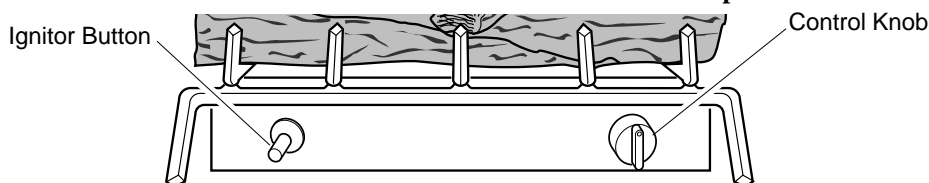

Figure 28 - Control Knob and Ignitor Button Location
4. Wait five (5) minutes to clear out any gas. Then smell for gas, including near the floor. If you smell gas, STOP! Follow "B" in the safety information above. If you don't smell gas, go to the next step.
5. Press in control knob and turn counterclockwise  to the PILOT position. Keep control knob pressed in for five (5) seconds (see Figure 28).